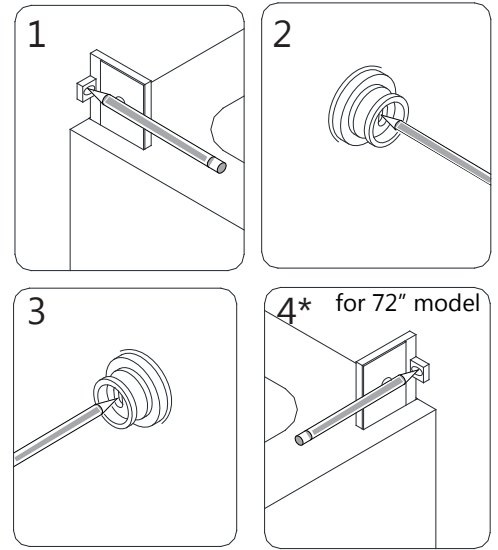

Fig 11
***NOTE:** If installing the 72" model, perform the same procedure on the opposite wall to mark the **Wall Bracket (#19)** for the **Small Stationary Panel Glass (#23)** (see Fig 11.4*). (Fig 11)